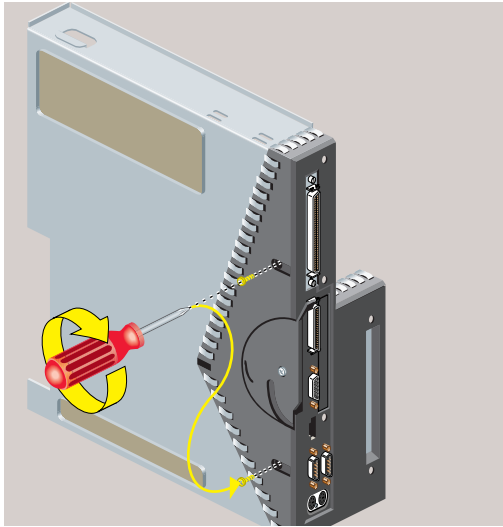

Figure 5-18 Replacing Two Screws on the Underside
- Use a Phillips screwdriver to insert and tighten two screws on the underside in the locations shown (Figure 5-18).